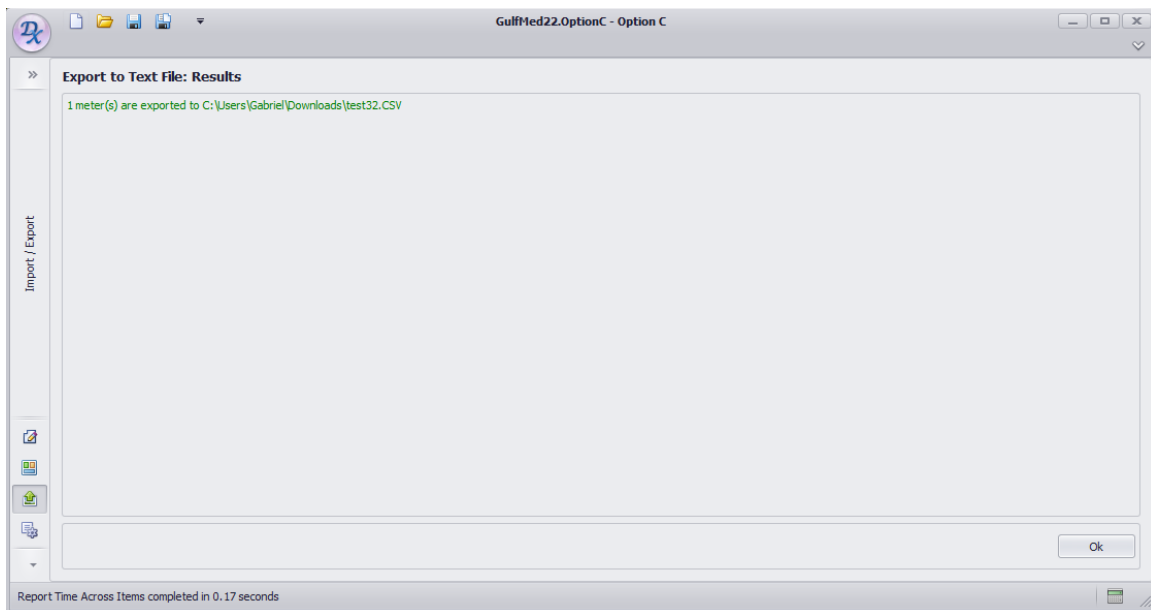

Figure 5.31: Screen for a successfully exported text file.
5. **Check the results:** if the file has been successfully exported, a screen like the one in Figure 5.31 will appear.